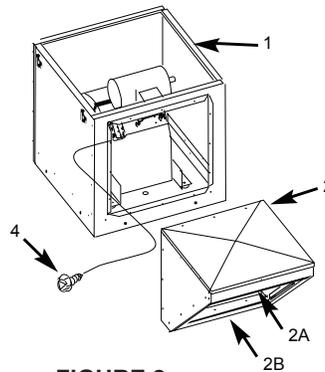

FIGURE 2
2. Cut or remove packaging as required. Carefully lift #2 out of #1. Determine if #2B is attached. If not, remove #2B from #1 and attach to #2 via hardware as shown in FIG 2.
3. Attach fully assembled #2 to #1 via hardware as shown in FIG 2.